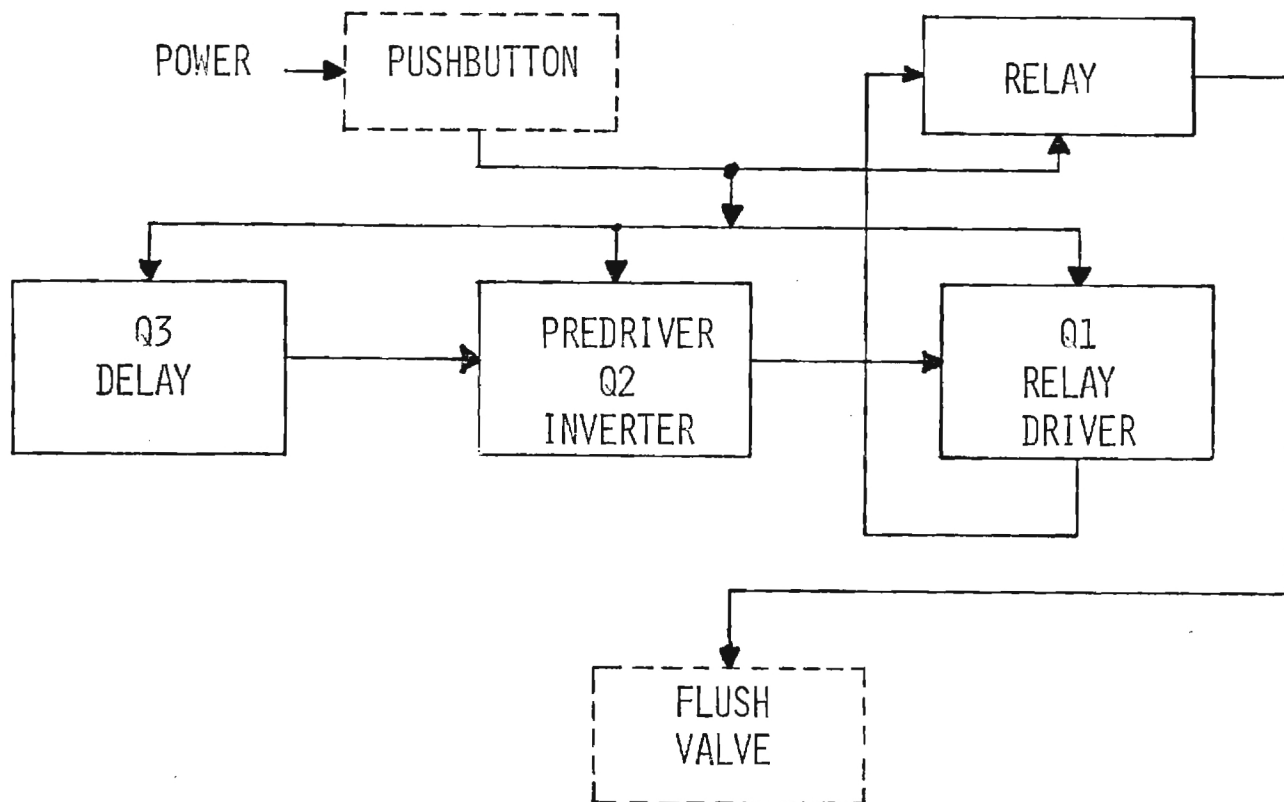

FIGURE 13. FUNCTIONAL BLOCK DIAGRAM P/N 103717
1. The functional block diagram for P/N 103717 (see Figure 13) shows general circuit operation of the 12 second timer that is used to control the power source which activates the flush valve. The circuit schematic shown in Figure 3 reveals further detail. When a potential is applied across pins 1 and 3 by a momentary pushbutton switch, transistor Q1 conducts immediately energizing REL-1 which latches Pin 6 to 7 and Pin 2 to 4. These connections are assumed to activate the flushing mechanism.